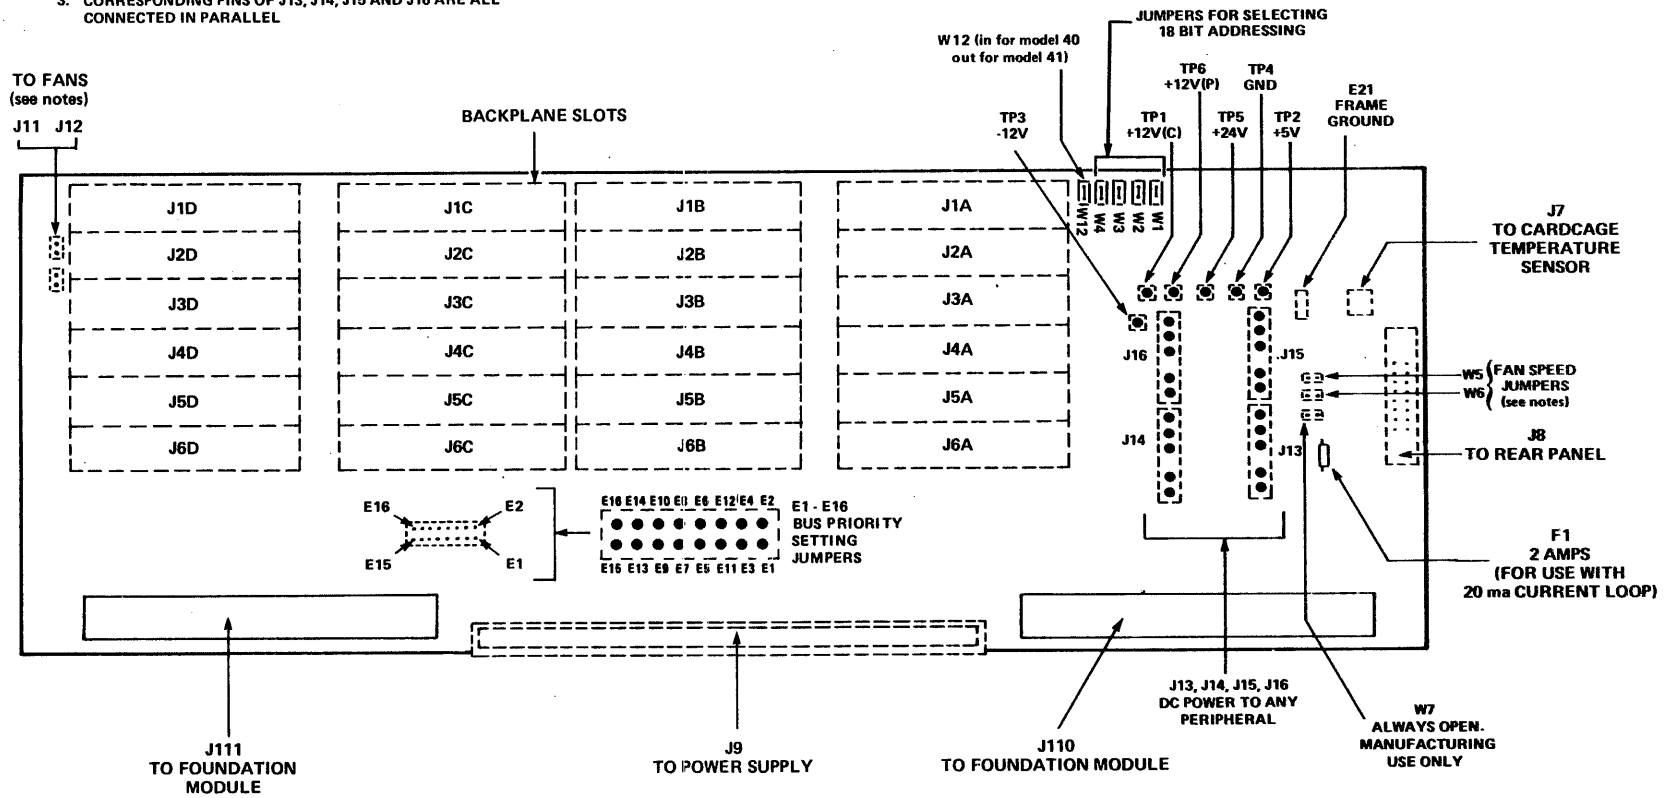
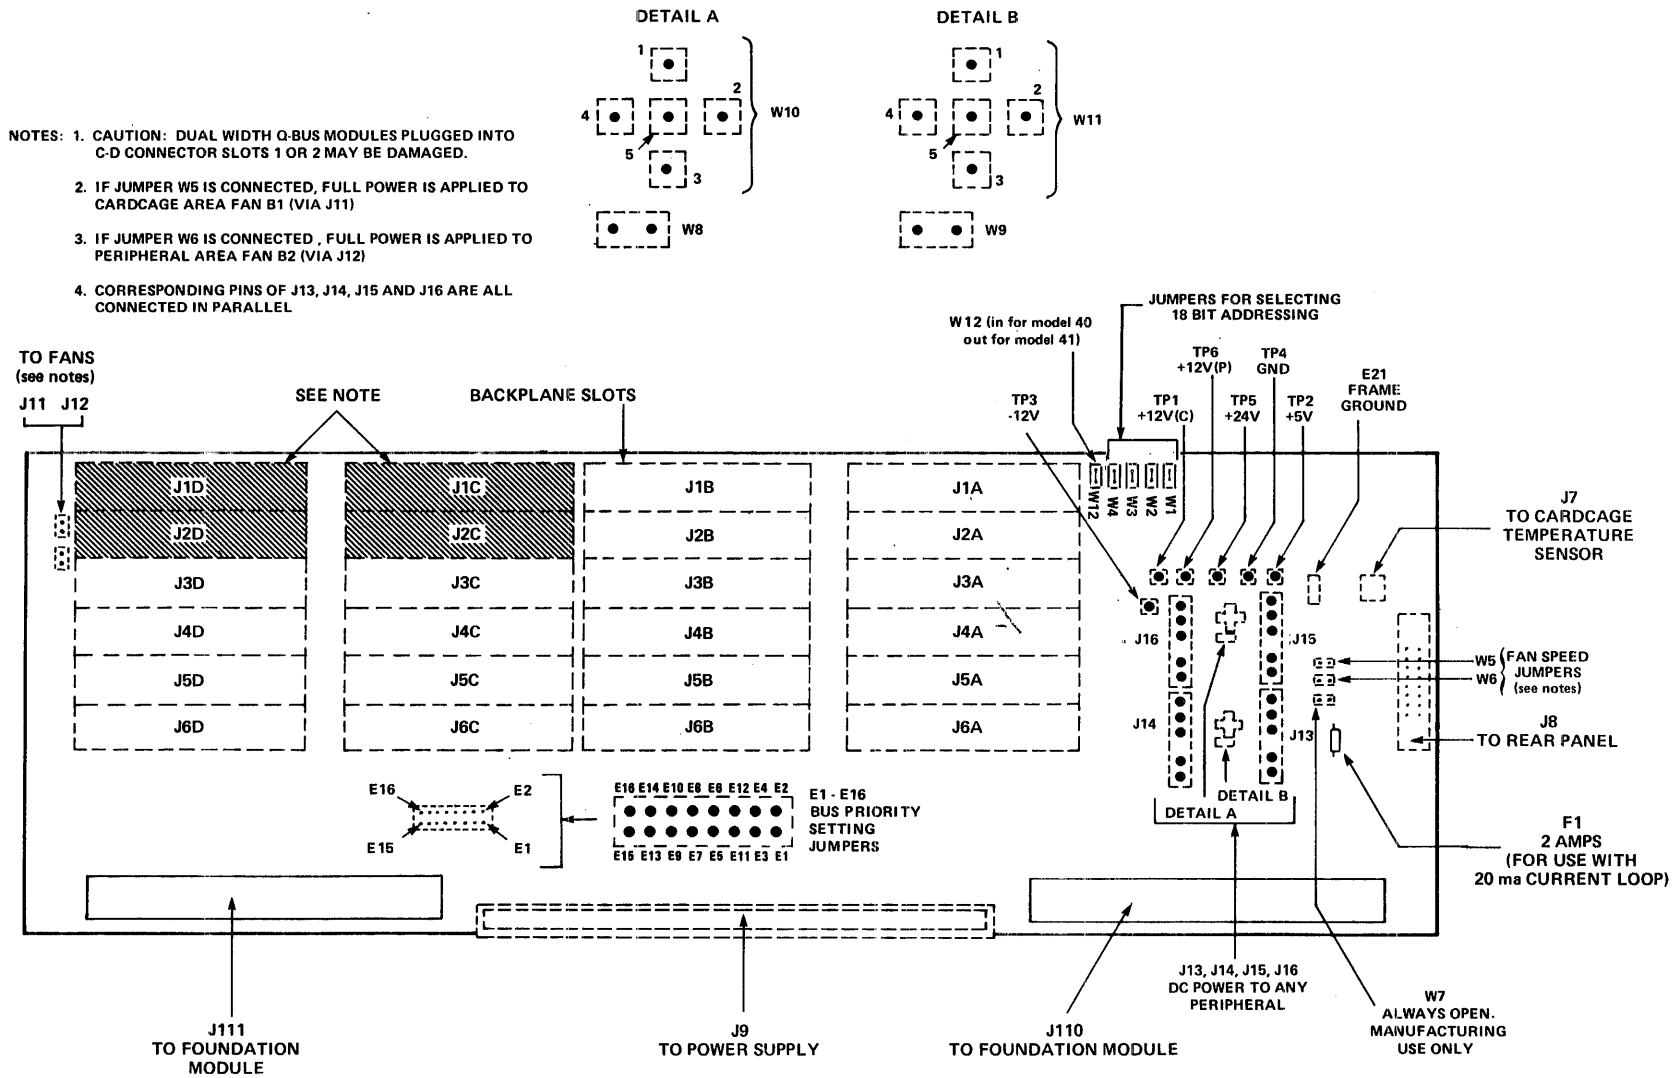
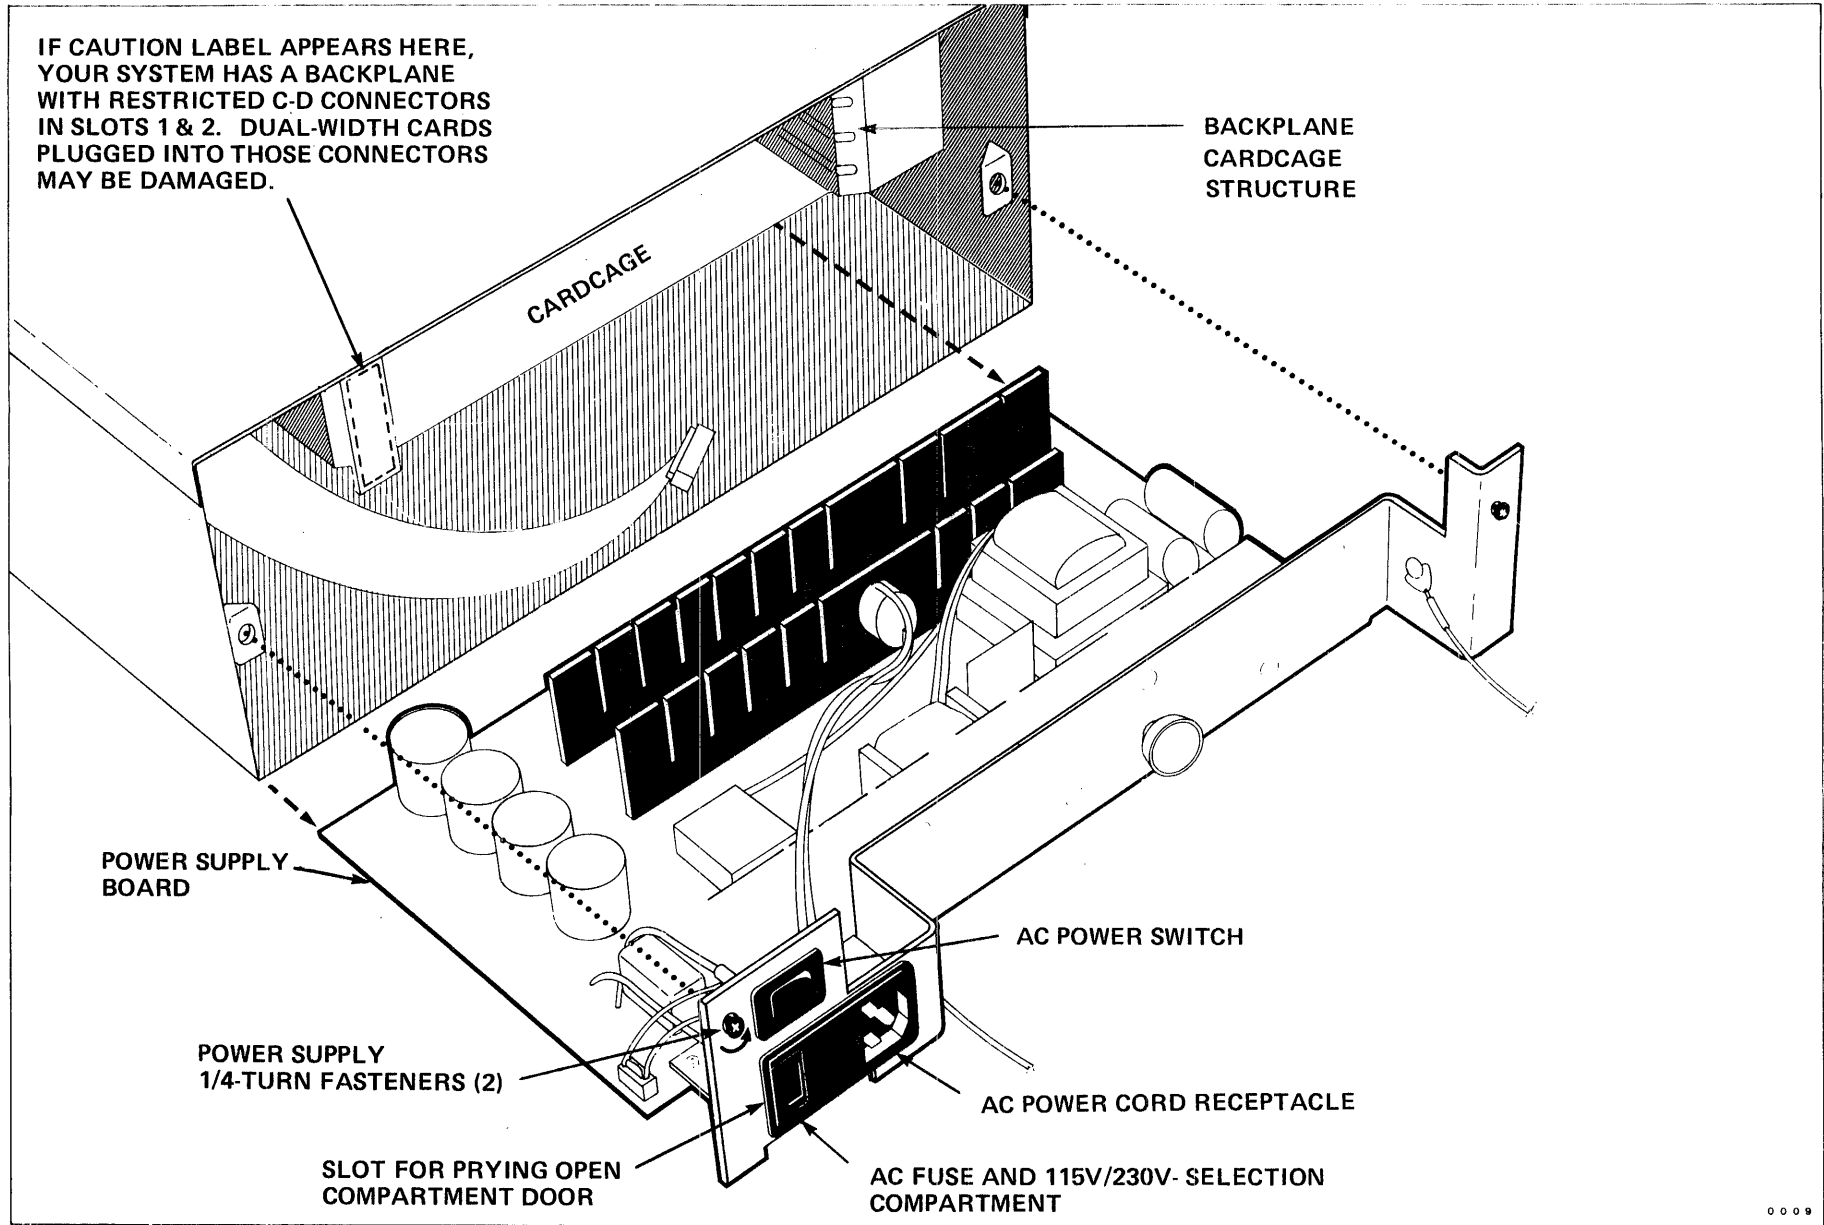

Fig. 1-5A Backplane without restricted C-D connectors in slots 1 and 2
Fig. 1-5B Backplane with restricted C-D connectors in slots 1 and 2
Fig. 1-6 Power Supply
3. BACKPLANES WITHOUT RESTRICTED C/D SLOTS (Figure 1-5A). The backplane is a group of six quad-width sockets connected together to operate as an LSI-11 bus. It contains the CPU, memory, and other modules that make up the basic SMS 1000 microcomputer. The backplane and the card cage are attached to the rear cover panel and associated brackets by twelve screws. The backplane can accommodate six quad-wide Q-bus modules, 12 dual-wide Q-bus modules or any combination of these. "Quad" and "dual" refer to the number of backplane connector sections required by a module; that is, quad occupy four connector sections and dual occupy two connector sections. NOTE: Systems with this type of backplane do NOT have a caution sticker on the left side of the cardcage supporting structure. Refer to Figure 1-6.
4. BACKPLANES WITH RESTRICTED C-D SLOTS (Figure 1-5B). The C-D connectors of backplane slots 1 and 2 on later versions of the SMS 1000 Model 40 backplane (or slots 1, 2 and 3 on Model 50 backplanes) have been connected differently from those of earlier versions. Because of this new wiring, dual-width cards plugged into the slot 1 or 2 C-D connectors of the new backplane may be damaged. If your system has this type of backplane, there will be a CAUTION label on the left rear flange of the cardcage supporting structure, as shown in Figure 1-6. This caution applies to all Model 50 backplanes.
5. POWER SUPPLY (Figure 1-6). The power supply for the system is contained on a single board which is held in place
Modules such as CPU card, memory cards, interface cards, etc., are plugged into a common-circuit board called the backplane (Figures 1-5A and 1-5B). The SMS 1000 backplane consists of an LSI-11 22-bit Q-bus with six slots, each capable of taking one quad-height printed-circuit board or two dual-height printed-circuit boards. The backplane can accommodate any combination of dual- or quad- height cards.
In order to allow for the use of certain newer quad-wide CPU boards in addition to the dual-wide LSI-11/23 and LSI-11/73 CPU's, the C-D connectors of backplane slots 1 and 2 on later versions of the Model 40 backplane have been connected differently from those of earlier versions (see Figures 1-5B and 1-6). Dual-width boards plugged into these C-D slots may be damaged. Backplanes with restricted C-D slots may be identified by the presence of a CAUTION label on the left rear flange of the card-cage supporting structure. The A-B connectors of slots 1 and 2 function in the same manner as before the change.
The power supply for the SMS 1000 (Figure 1-6) is contained on a single board that plugs into an 80-pin connector on one edge of the backplane board. The a-c input power connector and the AC ON/OFF switch are located on a bracket at the rear of the power-supply board. The a-c input receptacle also includes a line filter.
NOTE: In Model 40 systems that have a CAUTION label on the rear of the cardcage supporting structure (see Figures 1-5B and 1-6), the C-D connectors of backplane slots 1 and 2 have been rewired to allow for use of certain quad-width CPU cards. Because of this rewiring, dual-width cards plugged into the C-D connectors of slots 1 or 2 may be damaged. The A-B connectors of slots 1 and 2 function in the same manner as before the change.